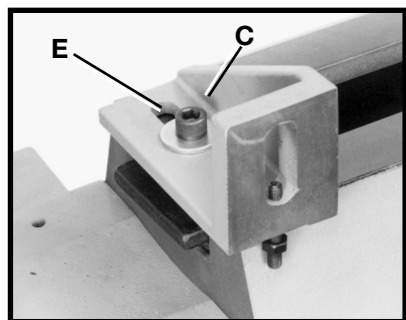

Fig. 6
5. Slide the remaining mounting bracket assembly (C) Fig. 6 onto the lathe bed at the headstock end of the wood lathe. Move it to about one inch from the end of the lathe bed.
- NOTE:** Loosely tighten hardware (E).